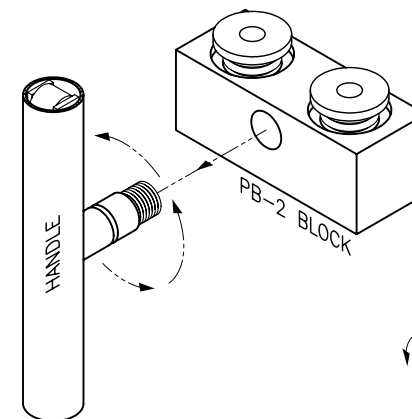

FIGURE 2
2. ROTATE ROUND CONNECTION PIVOT BRACKET (PORTION NEAREST TO THE PB-2 BLOCK, FIGURE 2) COUNTERCLOCKWISE AND REMOVE FROM PB-2 BLOCK.